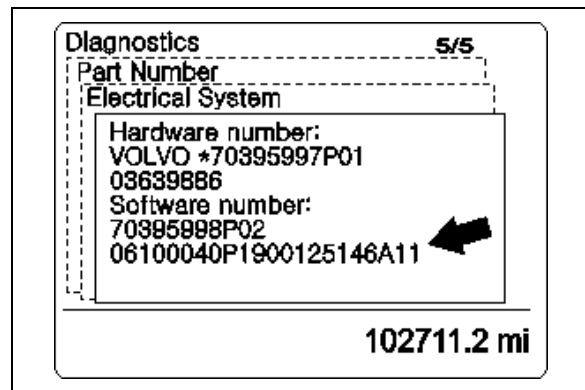

FIGURE 34: VALIDATING PROGRAM VERSION
8. Validate the program version using the DID. Look in diagnostic>part number>electrical system menus (see Figure 34). To confirm the update is has been successfully done, the last digits of the software number should match the file name (mp_00125146a11) uploaded.